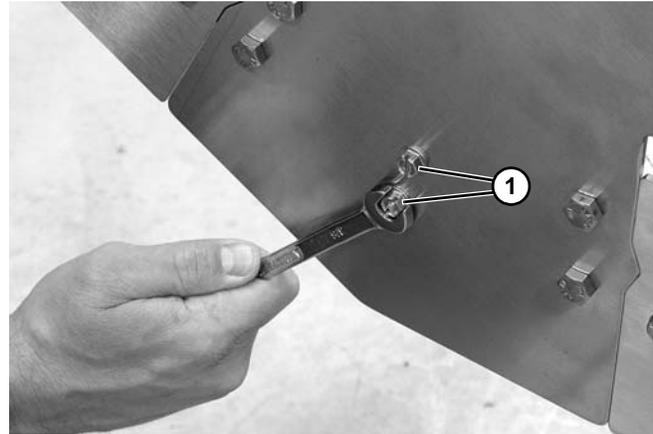
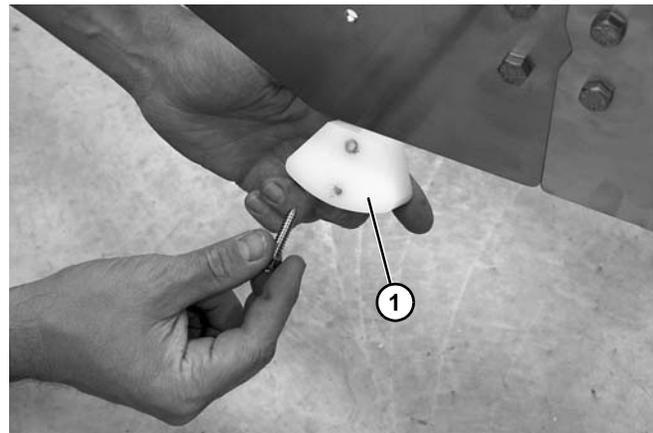

**Figure 72**
**Figure 73**
3. Remove screw and washer (**Figure 72, item 1**). Remove stub shaft (**Figure 73, item 1**), hold down roller (**Figure 73, item 2**), and spacer (**Figure 73, item 3**). Repeat on the opposite side of the conveyor.